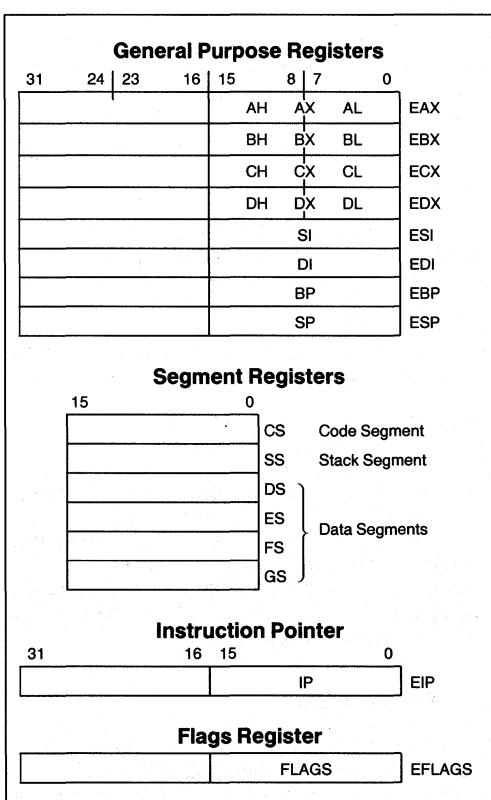

Figure 2.1. Base Architecture Registers
Figure 2.1 shows the Intel486 DX2 microprocessor base architecture registers. The contents of these registers are task-specific and are automatically loaded with a new context upon a task switch operation.
The eight 32-bit general purpose registers are shown in Figure 2.1. These registers hold data or address quantities. The general purpose registers can support data operands of 1, 8, 16 and 32 bits, and bit fields of 1 to 32 bits. Address operands of 16 and 32 bits are supported. The 32-bit registers are named EAX, EBX, ECX, EDX, ESI, EDI, EBP and ESP.
The instruction pointer, shown in Figure 2.1, is a 32-bit register named EIP. EIP holds the offset of the next instruction to be executed. The offset is always relative to the base of the code segment (CS). The lower 16 bits (bits 0–15) of the EIP contain the 16-bit